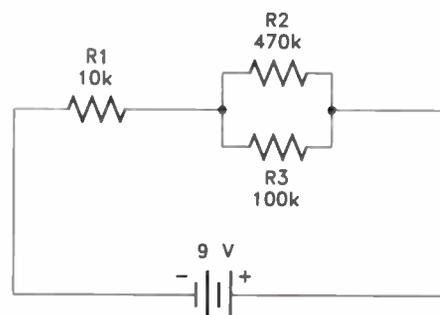
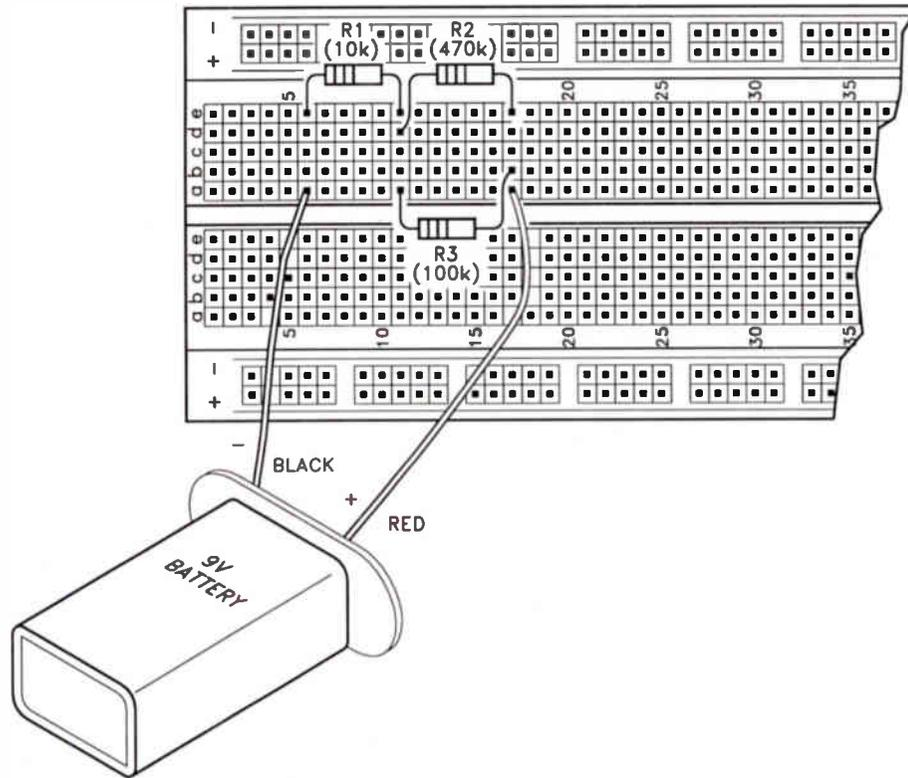

Figure 1-4. Kirchhoff's voltage law also applies to combinational-combinational circuits.
Figure 1-5. An illustration of the circuit for Step 3.
**Step 5.** Wire the circuit shown in Figures 1-4, on the next page, on your breadboard socket. Be sure to connect R2 in parallel with R3, and one end of R1 to the junction of R2 and R3. A pictorial is provided in Figure 1-5, on page 9.